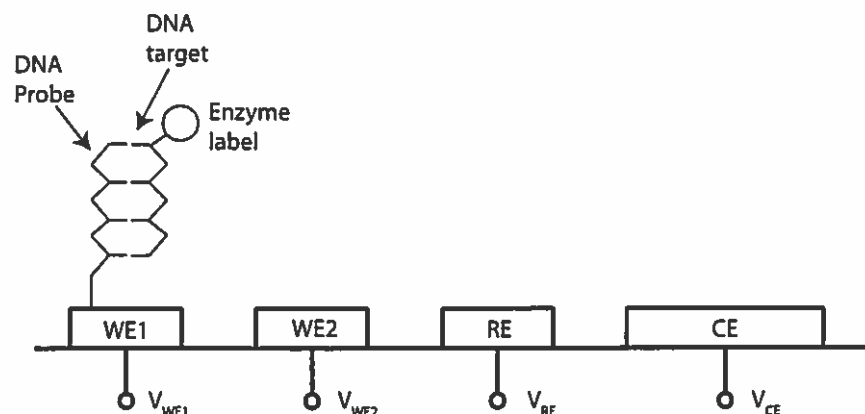

Figure 3.2
- c) Figure 3.2 shows an amperometric sensor used for the detection of DNA hybridization. The sensor works on the principle of a redox reaction confirming hybridization on WE1 at a cell potential of $V_{\text{cell}}=100\text{mV}$. An additional electrode, WE2 is added for sensor drift compensation. It is desirable that the output of any instrumentation system uses the difference between the hybridization reaction and drift to confirm a reaction.